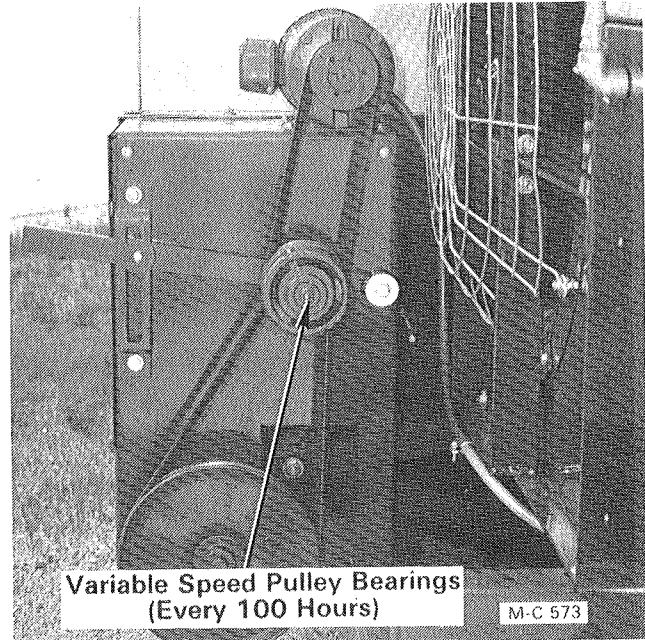

Figure 30
1. Lubricate the variable speed pulley shaft bearings **sparingly**, see Figure 30.